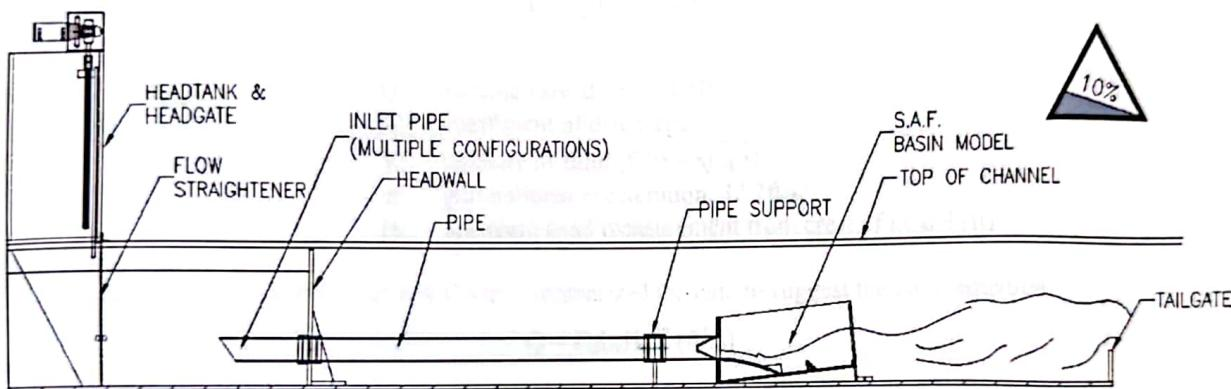

Figure 1 Installation
1. Initial settings (Fig. 1):
2. Mount the head wall to the channel floor midway along the upstream channel segment using two (2) #10-24UNC-2A x 0.625" long Round Head Machine Screws (RHMS).
3. Install the S.A.F. stilling basin model, pipe segment and inlet models as shown. Secure the S.A.F. stilling basin model to the channel floor using two (2) #10-24UNC-2A x 0.625" long Round Head Machine Screws (RHMS). Engage all o-rings at pipe connections. Any of the inlet models may be used.